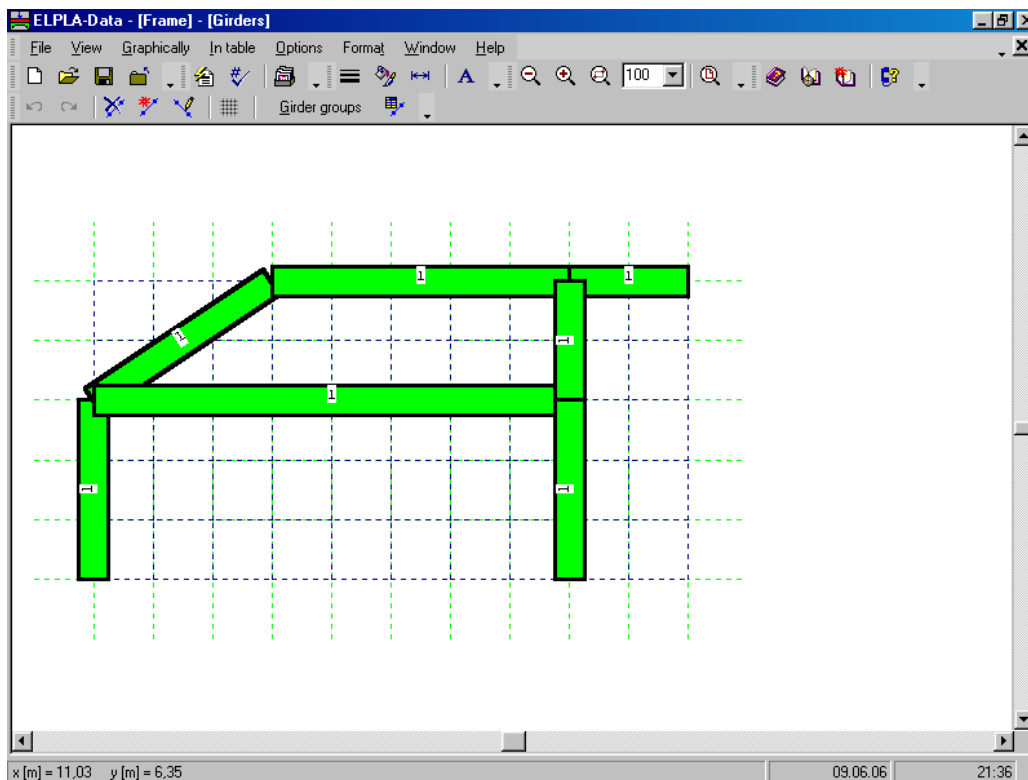

Figure 7-17 Girders on the screen
Repeat the previous steps to add the remaining girders on the net. After you have completed the definition of all girders, the screen should look like the following Figure 7-17.
- Choose "Save girders" command from "File" menu in Figure 7-17 to save the data of girders
- Choose "Close girders" command from "File" menu in Figure 7-17 to close the "Girders" embedded program and to return to the main window of *ELPLA-Data*